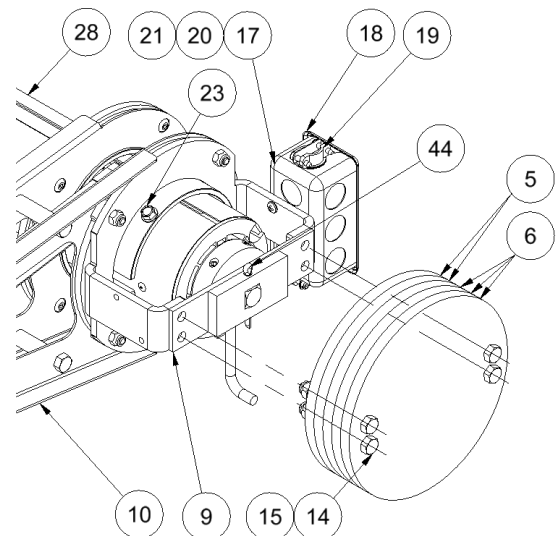

Figure 8a
3. **Single Motor Curtains (fig 8a):** Stack the weight plates (item 5 inner and 6 outer) as shown and connect to the motor drive plate (item 9) and to the anti-torque arm (item 10) using the four 5/16 x 2 3/4" bolts (Item 14) and 5/16" Lock Nuts (Item 15).